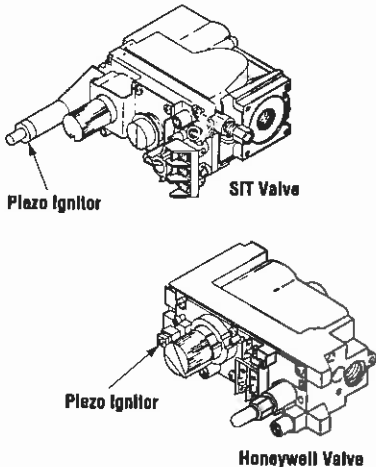

Figure 18
Step 9. Checking the System – With gas line installed run initial system checkout before closing up the front of the unit. Follow the pilot lighting instructions provided in the Homeowner's Care and Operation Instructions. For piezo ignitor location see *Figure 18* (millivolt appliances only).